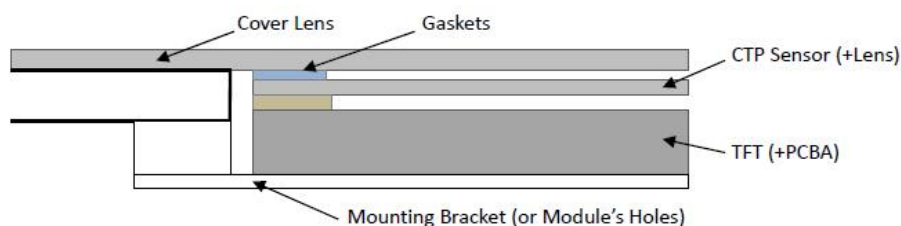

Figure 3
8.3 Additional Cover Lens Mounting (Figure 3)
- 8.3 覆加盖板（附图 3）